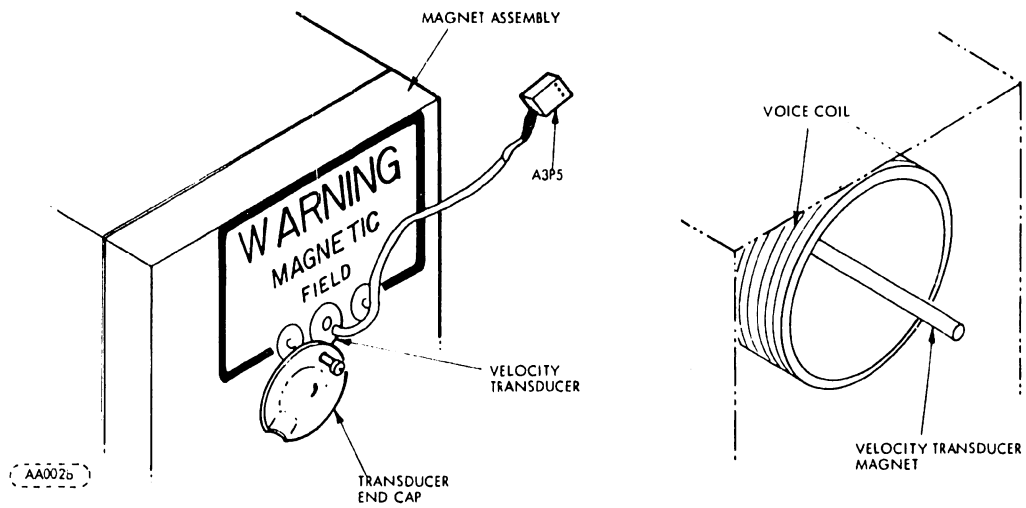

FIGURE 6-2. VELOCITY TRANSDUCER LOCATION
12. Loosen velocity transducer set screw through hole in pre-amp and magnet assembly. Remove velocity transducer end cap and velocity transducer (see Figure 6-2 and 6-10).
8. Install velocity transducer and velocity transducer end cap and tighten set-screw through hole in preamp PWA (see Figure 6-2).